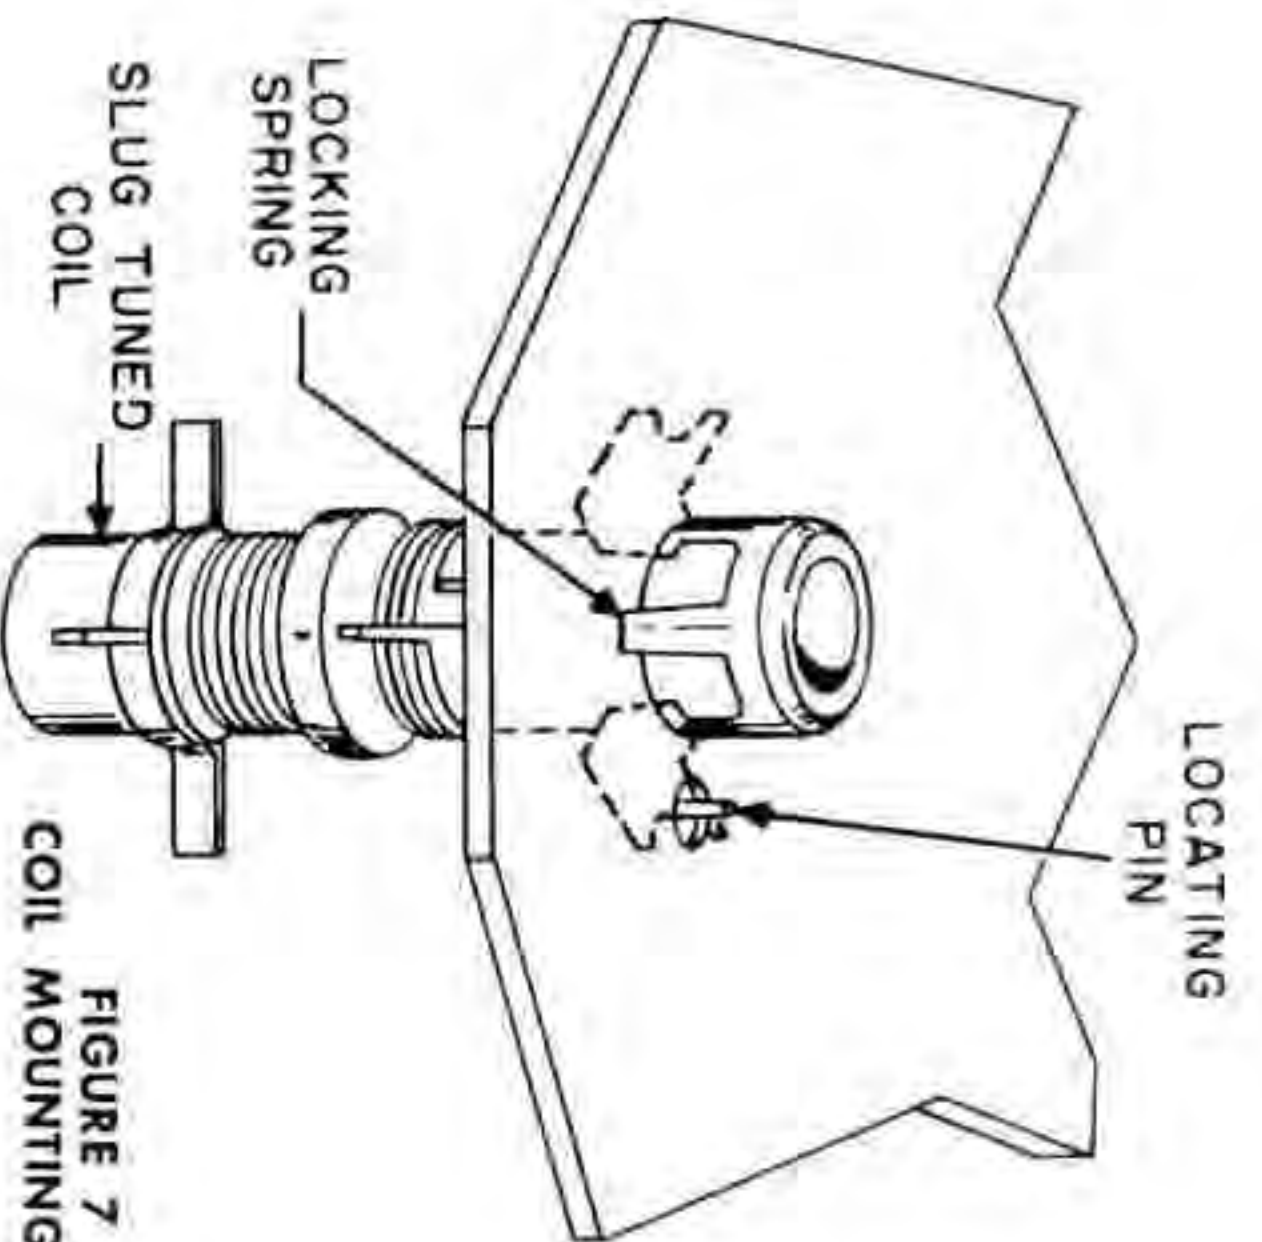

FIGURE 7
- ☑ L-5, the yellow dot coil. Mount from inside the chassis, as shown in Figure 7. Be sure the locating pin is correctly positioned before pushing the locking spring through the chassis.